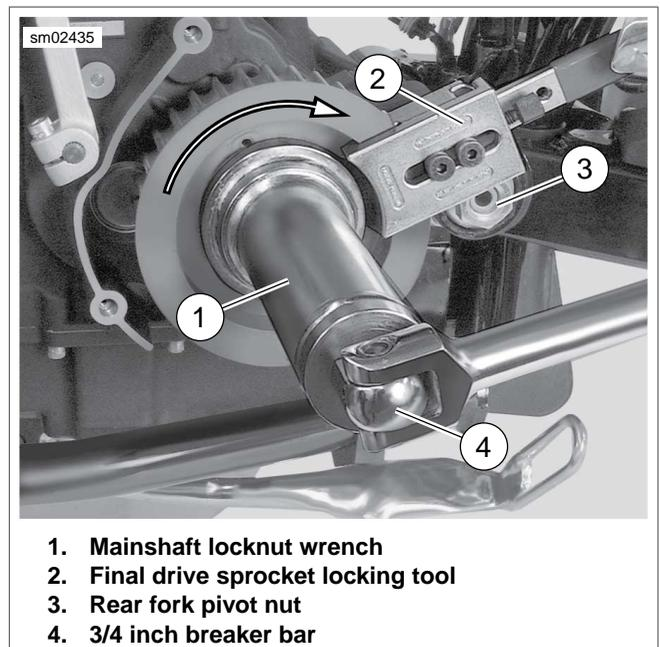

Figure 6-42. Sprocket Nut Installation (Typical)
3. See Figure 6-42. Lock transmission sprocket with the FINAL DRIVE SPROCKET LOCKING TOOL (Part No. HD-46282) (2). Final drive sprocket locking tool must rest against upper portion of rear fork pivot nut (3).
5. Using MAINSHAFT LOCKNUT WRENCH (Part No. HD-47910) (1), tighten sprocket nut to 35 ft-lbs (47.5 Nm) initial torque.